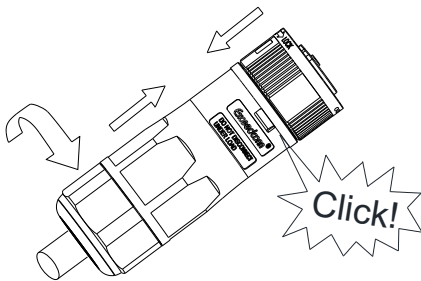
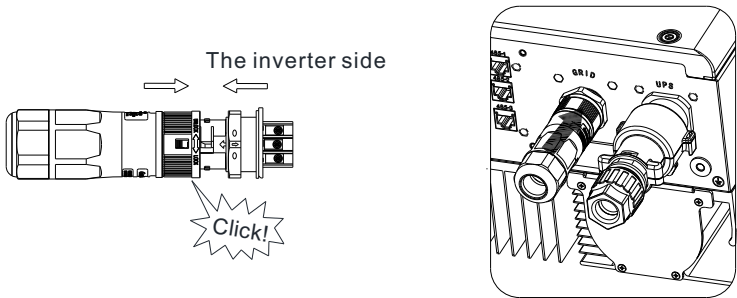

Figure 5.19
Figure 5.20
- If you want to enable both the on-grid mode and the backup function, please refer to Fig 5.19 and Fig 5.20 to connect the AC Grid terminal and the EPS Output terminal.